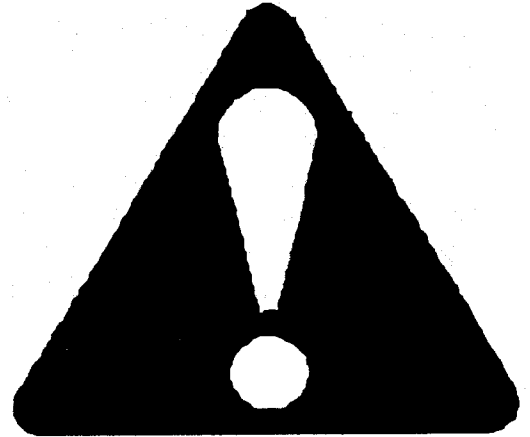

FIGURE 1. SAFETY-ALERT SYMBOL
3.1 The Safety-Alert Symbol shall be an equilateral triangle with rounded corners and with an exclamation mark located in the center as shown in Figure 1. The dimensions are optional.